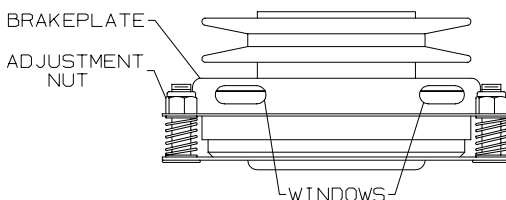

Figure 1
2. Locate the three holes in the brake plate, one near each adjustment nut. (Figure 1)